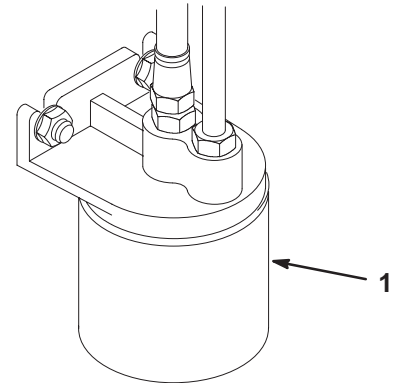

Figure 45
3. Place a drain pan under the filter, remove the old filter, and wipe the filter adapter gasket surface clean (Fig. 45).